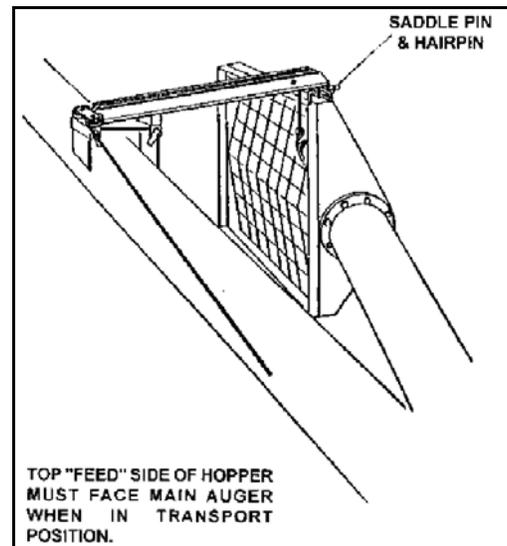

Figure 4.3
4. Raise intake feed hopper into transport position by attaching cable hook to the handle on the side of the hopper, then fully raise hopper with intake side facing toward main auger. Secure hopper to lift arm with the hopper lock, saddle pins, and hairpins provided. See Figure 4.3.
Important: *Intake feed side of hopper must face main auger when in transport, see Figure 4.3.*